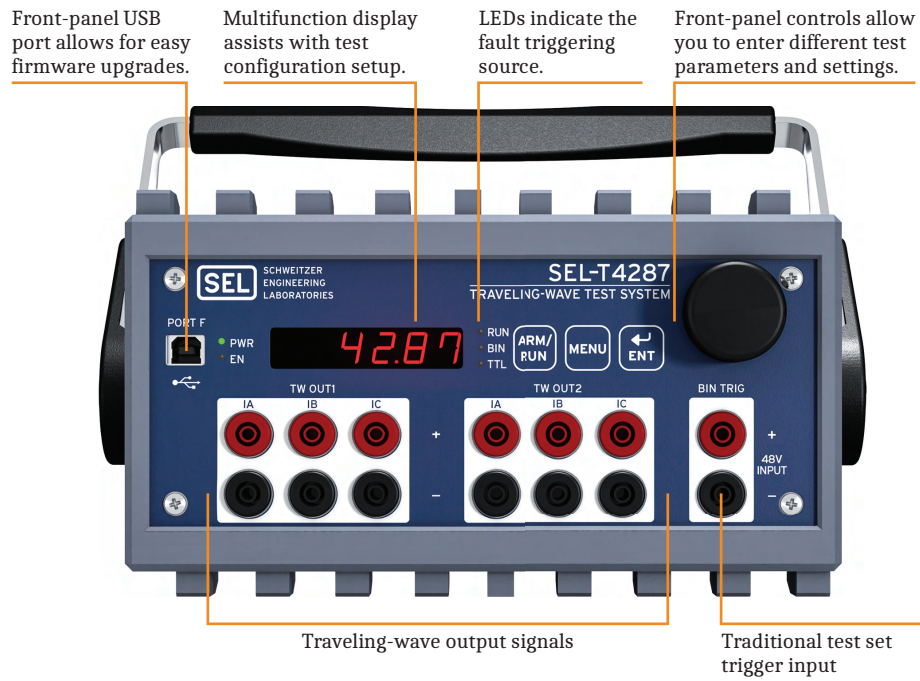
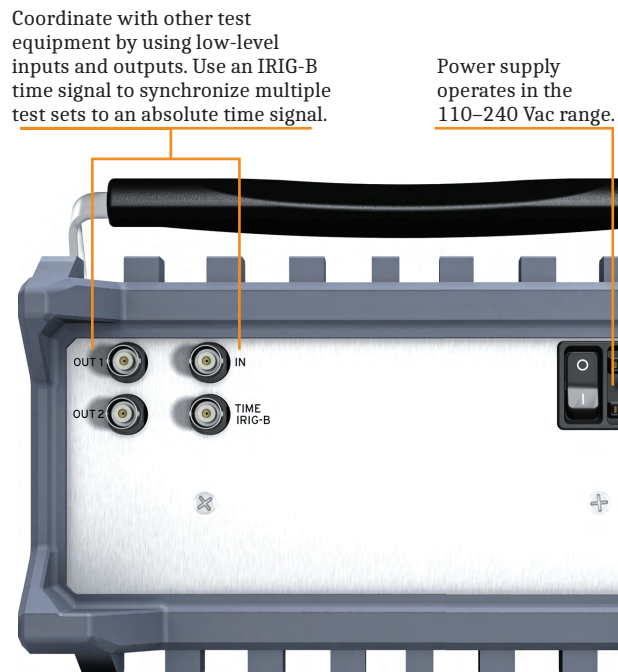

Figure 1 SEL-T4287 Front-Panel Features
Figure 2 SEL-T4287 Rear-Panel Features
The SEL-T4287 generates traveling waves based on user-specified parameters for the line length (LL), traveling-wave line propagation time (TWLPT), number of terminals (NTERM), fault type (FLTYPE), and fault location (FL). These parameters are configured through the front panel, which includes a multifunction display, a USB port, trigger source indication LEDs, and front-panel controls, as shown in *Figure 1*. Multiple triggering sources are available to suit your testing needs, including a front-panel pushbutton, a 48 V binary input from a traditional relay test set, and a 5 V TTL rising-edge input. You can also trigger a test at a specific time when connected to an IEEE C37.118-compliant IRIG-B signal. *Figure 2* shows the rear-panel inputs, outputs, and power supply. External trigger outputs are available to signal other test sets.
Figure 1 shows the front-panel **PWR** and **EN** LEDs. When power is applied to the test set and the power switch is in the on position, the **PWR** LED illuminates. The **PWR** LED remains illuminated while the SEL-T4287 is powered on and operating properly. The **EN** LED illuminates when the outputs (**TW OUT1**, **TW OUT2**, **OUT 1**, **OUT 2**) of the test set are enabled. The outputs are enabled when one of the following conditions is true and there are no internal diagnostic failures: